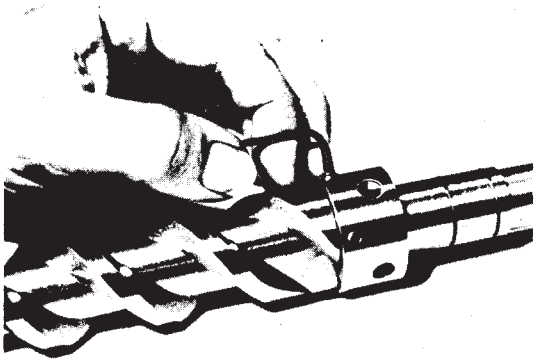

Figure 8
Step 2 — Loosen set screws on seal spring holder and with clips in place install onto shaft. Tighten set screws to spot shaft (Fig. 8).
Step 4 — Re-install rotating seal member onto the shaft and tighten set screws into spotted areas so that the seal member is locked into position (Fig. 8). Lock set screws with center punch to prevent loosening.